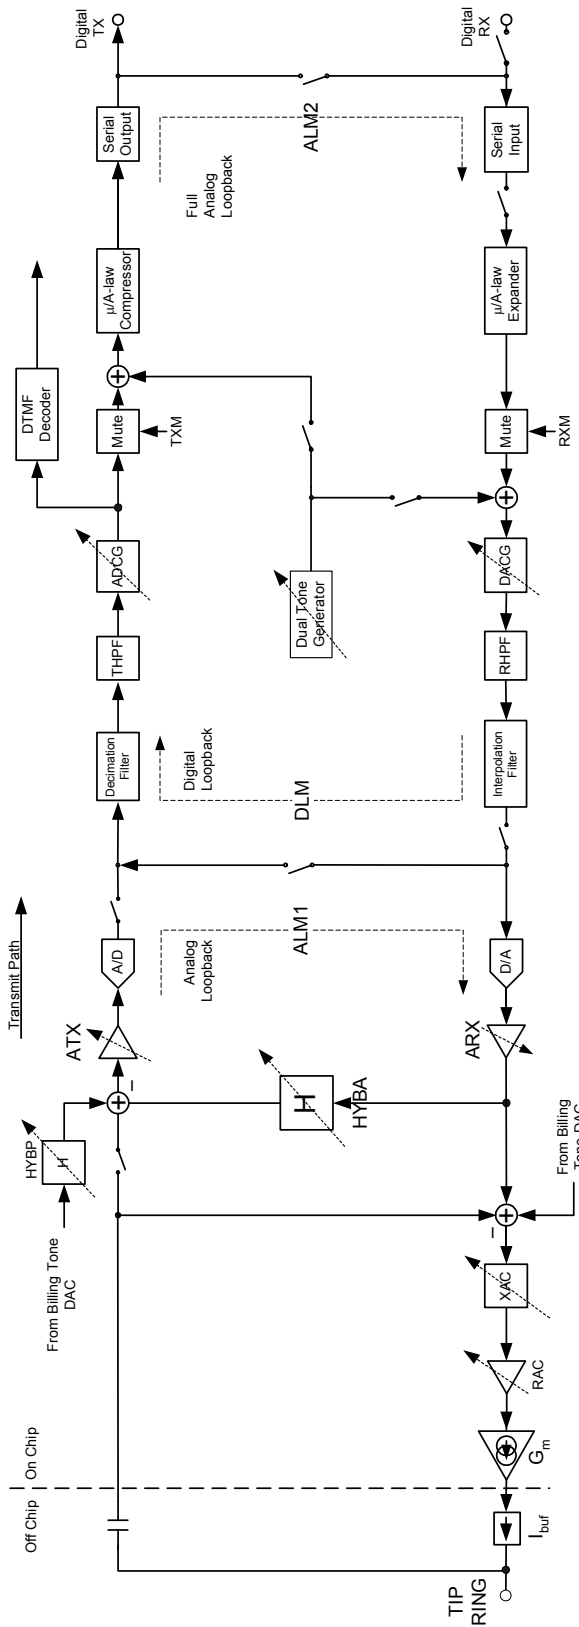

Figure 25. AC Signal Path Block Diagram
Unlike traditional SLICs, the codec function is integrated into the ProSLIC. The 16-bit codec offers programmable gain/attenuation blocks and several loop-back modes. The signal path block diagram is shown in Figure 25.
The block diagram for the voice-band signal processing paths is shown in Figure 25. Both the receive and transmit paths employ the optimal combination of analog and digital signal processing to provide maximum performance while offering sufficient flexibility to allow users to optimize for their particular ProSLIC application. All programmable signal-processing blocks are indicated symbolically in Figure 25 by a dashed arrow across them. The two-wire (TIP/RING) voice-band interface to the ProSLIC is implemented using a small number of external components. The receive path interface consists of a unity-gain current buffer, I_{BUF} , while the transmit path interface is simply an ac coupling capacitor. Signal paths, although implemented differentially, are shown as single-ended for simplicity.
The ProSLIC provides programmable transhybrid balance with gain block H. (See Figure 25.) In the ideal case, where the synthesized SLIC impedance matches exactly the subscriber loop impedance, the transhybrid balance should be set to subtract a -6 dB level from the transmit path signal. The transhybrid balance gain can be adjusted from -2.77 dB to $+4.08$ dB around the ideal setting of -6 dB by programming the HYBA[2:0] bits of the Hybrid Control register (direct Register 11). Note that adjusting any of the analog or digital gain blocks will not require any modification of the transhybrid balance gain block, as the transhybrid gain is subtracted from the transmit path signal prior to any gain adjustment stages. The transhybrid balance can also be disabled, if desired, using the appropriate register setting.
- The full analog loopback (ALM2) tests almost all the circuitry of both the transmit and receive paths. The compressed 8-bit word transmit data stream is fed back serially to the input of the receive path expander. (See Figure 25.) The signal path starts with the analog signal at the input of the transmit path and ends with an analog signal at the output of the receive path.
- An additional analog loopback (ALM1) takes the digital stream at the output of the A/D converter and feeds it back to the D/A converter. (See Figure 25.) The signal path starts with the analog signal at the input of the transmit path and ends with an analog signal at the output of the receive path. This loopback option allows testing of the analog signal processing circuitry of the Si3210 to be carried out completely independently of any activity in the DSP.
- The full digital loopback tests almost all the circuitry of both the transmit and receive paths. The analog signal at the output of the receive path are fed back to the input of the transmit path by way of the hybrid filter path. (See Figure 25.) The signal path starts with 8-bit PCM data input to the receive path and ends with 8-bit PCM data at the output of the transmit path. The user can bypass the companding process and interface directly to the 16-bit data.
Real and complex two-wire impedances are realized by internal feedback of a programmable amplifier (RAC), a switched capacitor network (XAC), and a transconductance amplifier (G_m). (See Figure 25.) RAC creates the real portion, and XAC creates the imaginary portion of G_m 's input. G_m then creates a current that models the desired impedance value to the subscriber loop. The differential ac current is fed to the subscriber loop via the ITIPP and IRINGP pins through an off-chip current buffer, I_{BUF} , which is implemented using transistors Q1 and Q2 (see Figure 13 on page 21). G_m is referenced to an off-chip resistor (R_{15}).